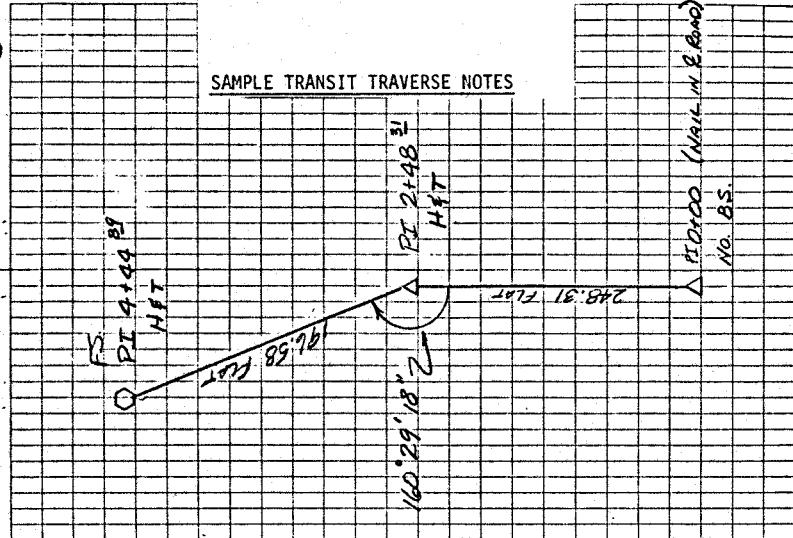

Figure 2
14. Sample traverse notes are shown on Figure 2.